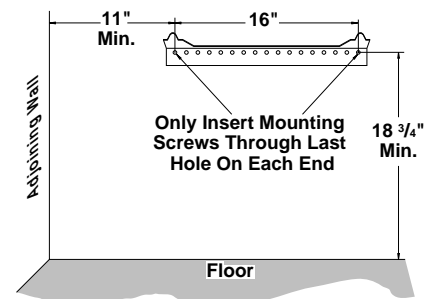

Figure 11 - Mounting Bracket Clearances
WARNING: Maintain minimum clearances shown in Figure 11. If you can, provide greater clearances from floor and joining wall.
2. Mark screw locations on wall (see Figure 11).